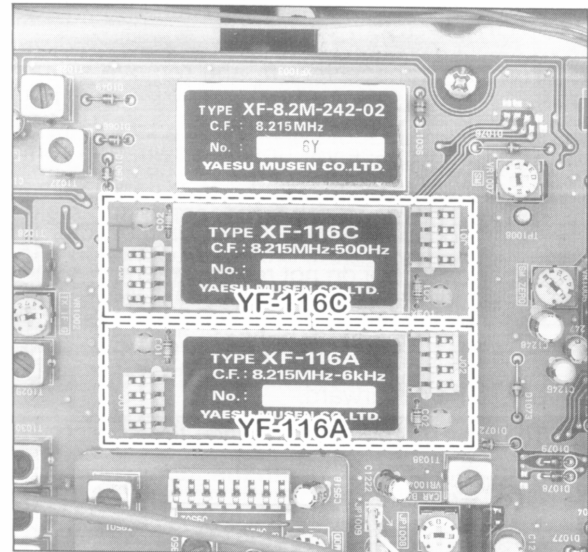

Figure 3
- ③ Refer to Figure 3, and push the optional filter board onto the pins corresponding to its assigned mounting location on the radio. Gently press the board down until it is firmly seated in its connectors.
- ④ Replace the bottom case of the transceiver.
- ⑤ Turn the transceiver on, and enter the Menu mode. Per the chart below, change the setting of Menu Item U-69 to **"On"** if installing the **YF-116C** CW filter, and/or change the setting of Menu Item U-70 to **"On"** if installing the **YF-116A** AM filter.
- ⑥ Filter installation is now complete.